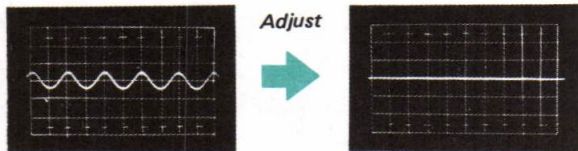
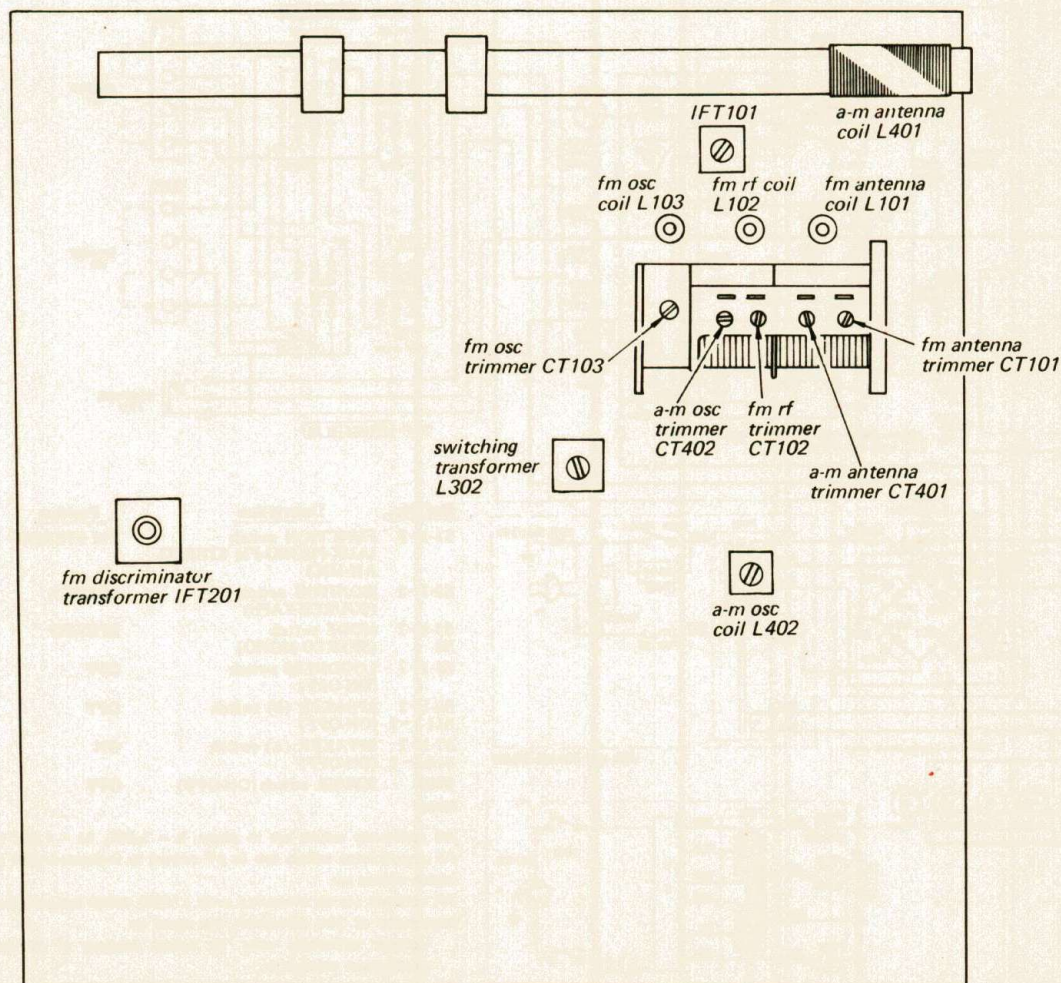

Fig. 3-6. Fm discriminator alignment output response
Fig. 3-11. Adjustment parts location
4. If the discriminator transformer IFT201 is not aligned correctly, 400 Hz ripple will be observed as shown in Fig. 3-6.
5. Turn the top core (secondary side) of discriminator transformer IFT201 (see Fig. 3-11) to obtain a minimum indication on the oscilloscope with an alignment tool as shown in Fig. 3-6.
7. Turn the core of fm IFT101 and the bottom core (primary side) of discriminator transformer IFT-201 (see Fig. 3-11) to obtain the maximum output.
1. Precisely tune the receiver to the carrier frequency of stereo signal generator, then turn the top core of switching transformer L302 (see Fig. 3-11) to obtain maximum output at the left channel. Note that this adjustment has a close relationship with stereo distortion.